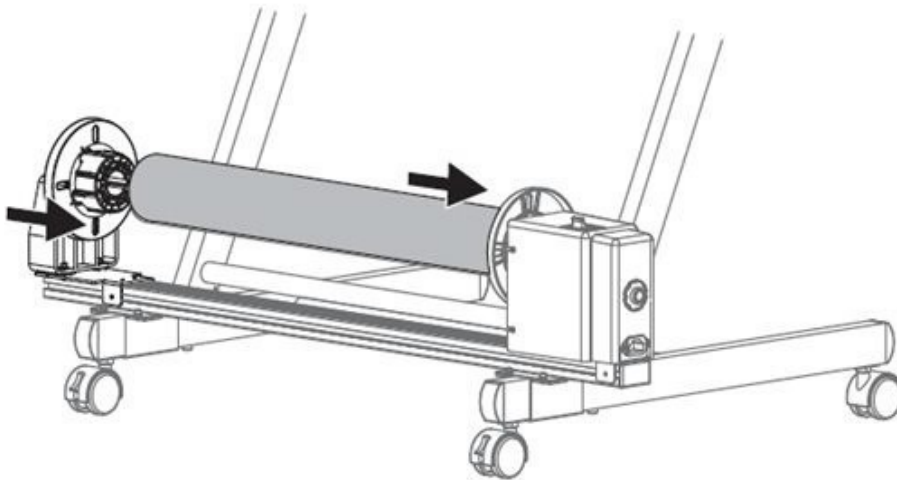

Figure 33
4. Set the take-up tube. See Figure 33.